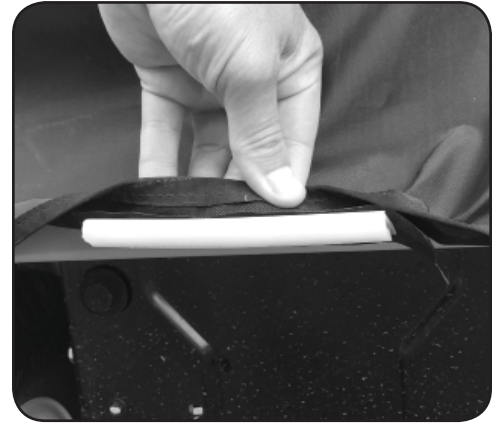

Figure 3-12
- The rear center clip clips onto the center of the fender. See Figure 3-12.